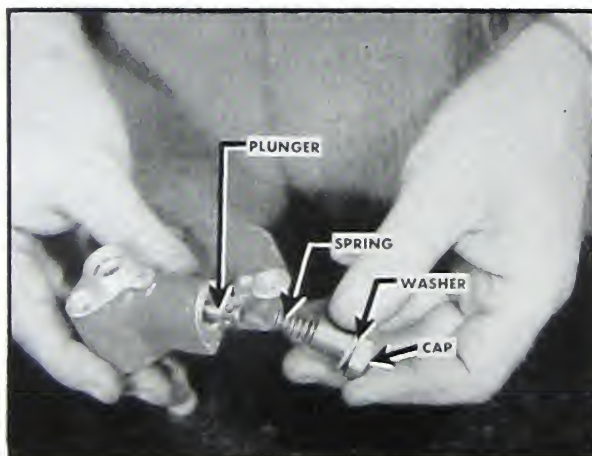

Fig. 5-244. Replace plunger cap
DISASSEMBLY: 1. Remove the plunger cap and lift out the spring and plunger. Fig. 5-244.
4. Assemble the plunger cap, spring and cap washer to the stop housing. Fig. 5-244.